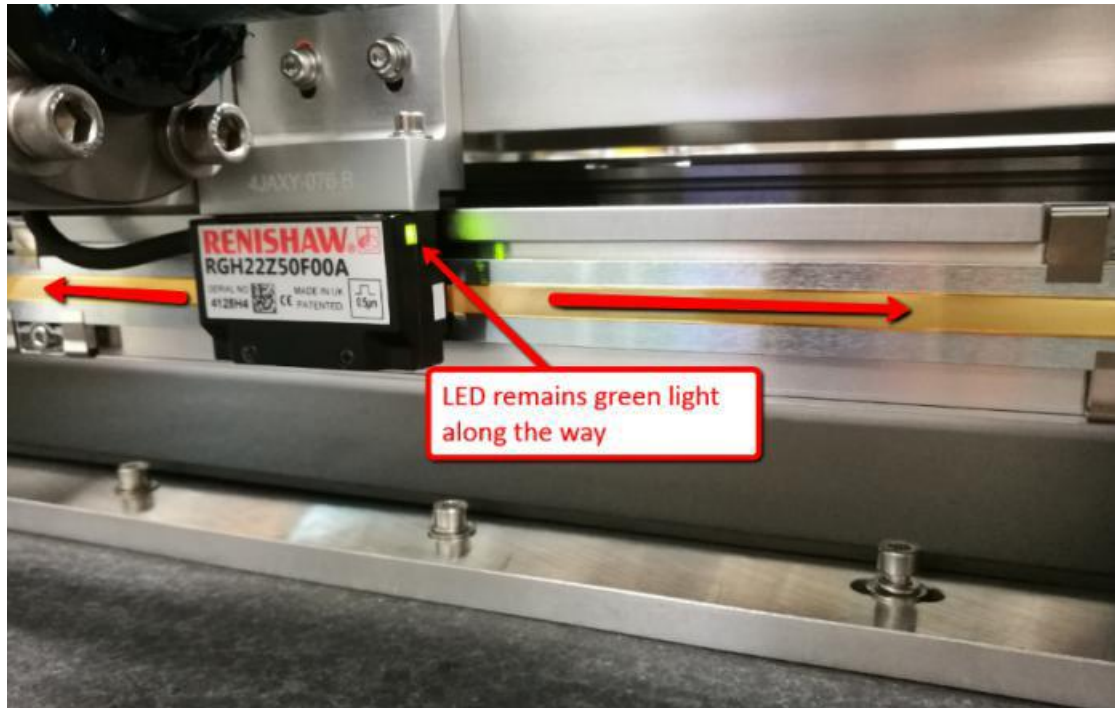

Figure 36
1. Manually push X-Axis stage from minimum hard stop (Left side) to maximum hard stop (Right side). The encoder should remain green color all the way as shown in Figure 36.